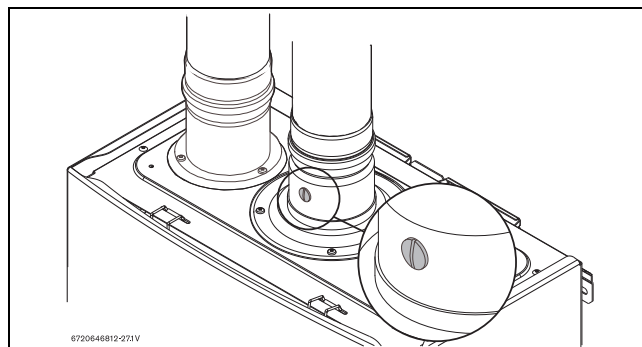

Fig. 72 Measuring port
- Remove brass flat head screw on the exhaust collar as seen in Fig.72.